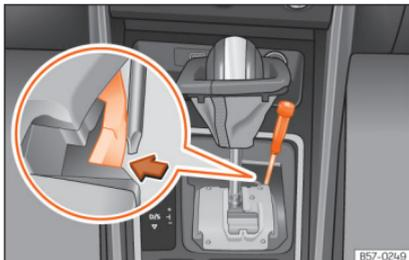

Fig. 57 Selector lever: manual release from position P.
- Using a screwdriver, press and hold the yellow unlocking tab sideways » » » Fig. 57.
- Now press the interlock button on the selector lever (A) and move the selector lever to position N.